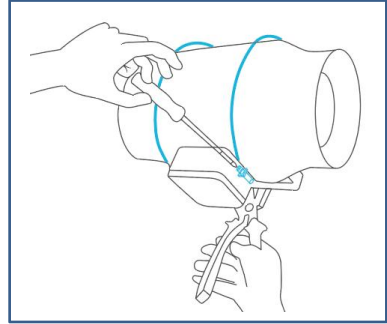

Fig.10.
- Place the metal rings back onto the flanges and tighten the screws back to secure the fan. See the (Fig.10.)